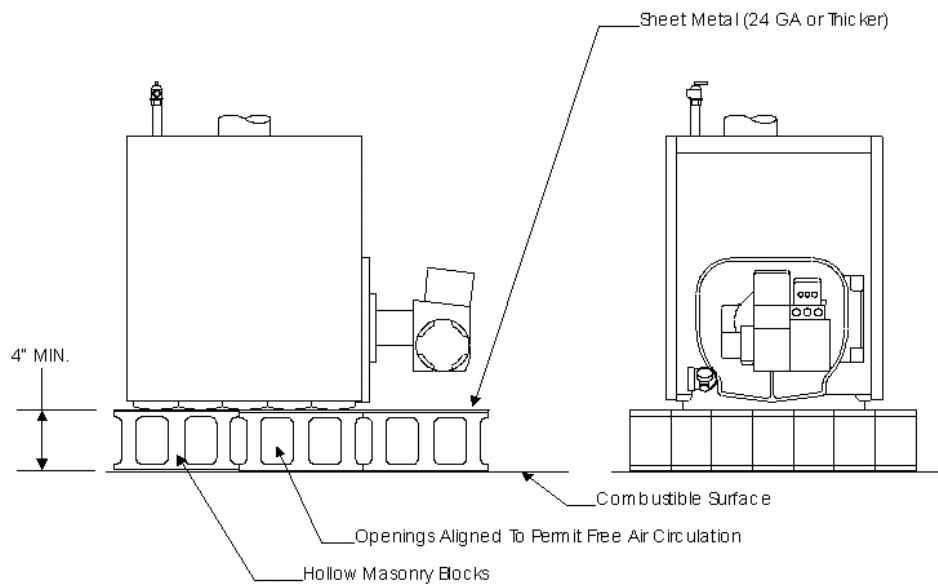

FIGURE 5.2: INSTALLATION OVER A COMBUSTIBLE FLOOR
3) Do not install this boiler directly on a combustible surface. Where it is desired to install this boiler over a non-carpeted combustible surface, install the boiler on the base shown in Figure 5.2.